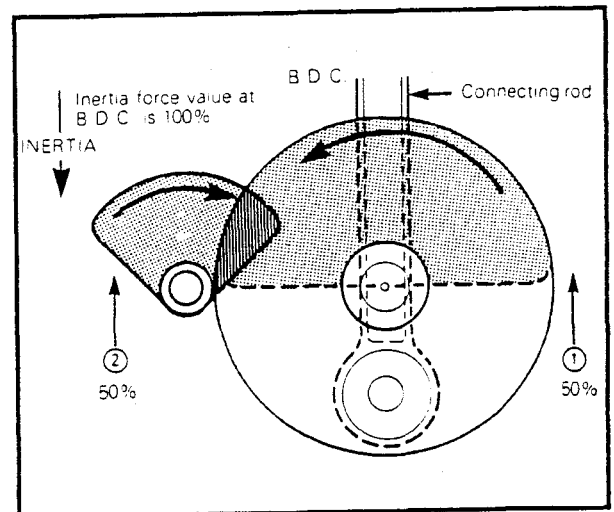

Figure 2-7. Inertia Force Configuration at B.D.C.
7. See Figure 2-7. To counteract this force, the centrifugal force of the counterweights cancel 50% and the balancer cancels nearly all the remaining 50%.